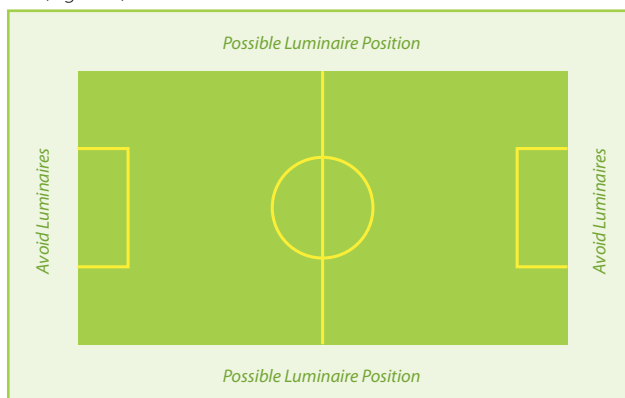

Fig.2 Multi-Purpose Hall lighting layout
- In large multi-purpose halls with fluorescent or discharge lighting it is usual to arrange the lighting in rows between courts (Figure 2).